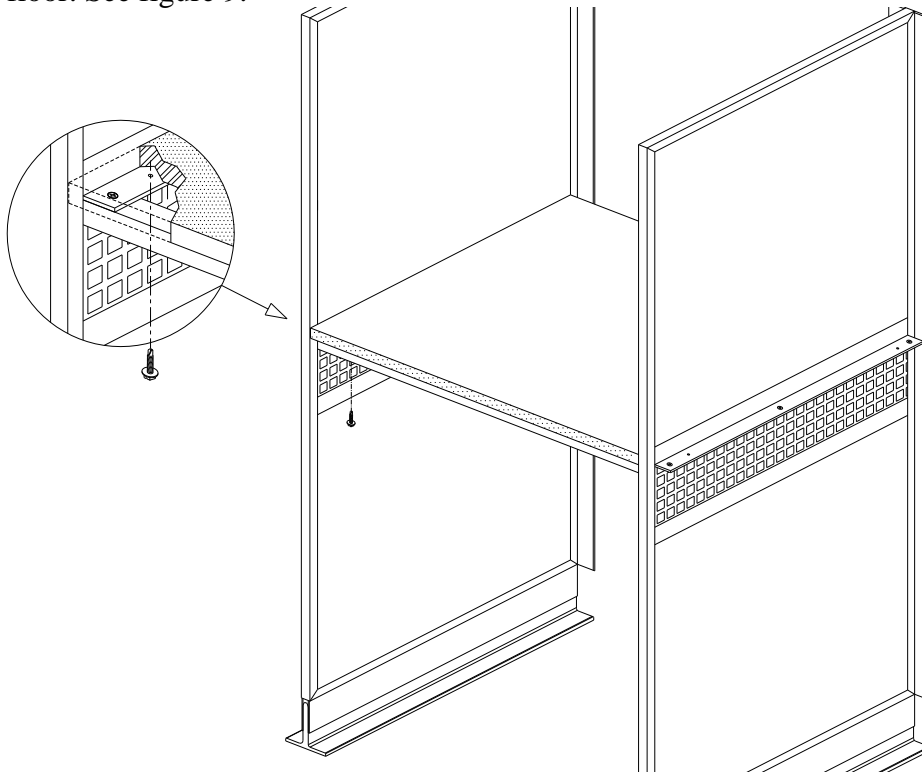

Figure 9
4. If desired you may use (4) #2222 TEK self-tapping screws to secure the floor in place. With the floor in its final location, hold firmly down on the floor and drive a screw up through each of the pilot holes in the division panel support flanges into the floor, (4 places per floor). Use the minimum amount of torque necessary to drive the screws to avoid stripping out the threads in the floor. See figure 9.